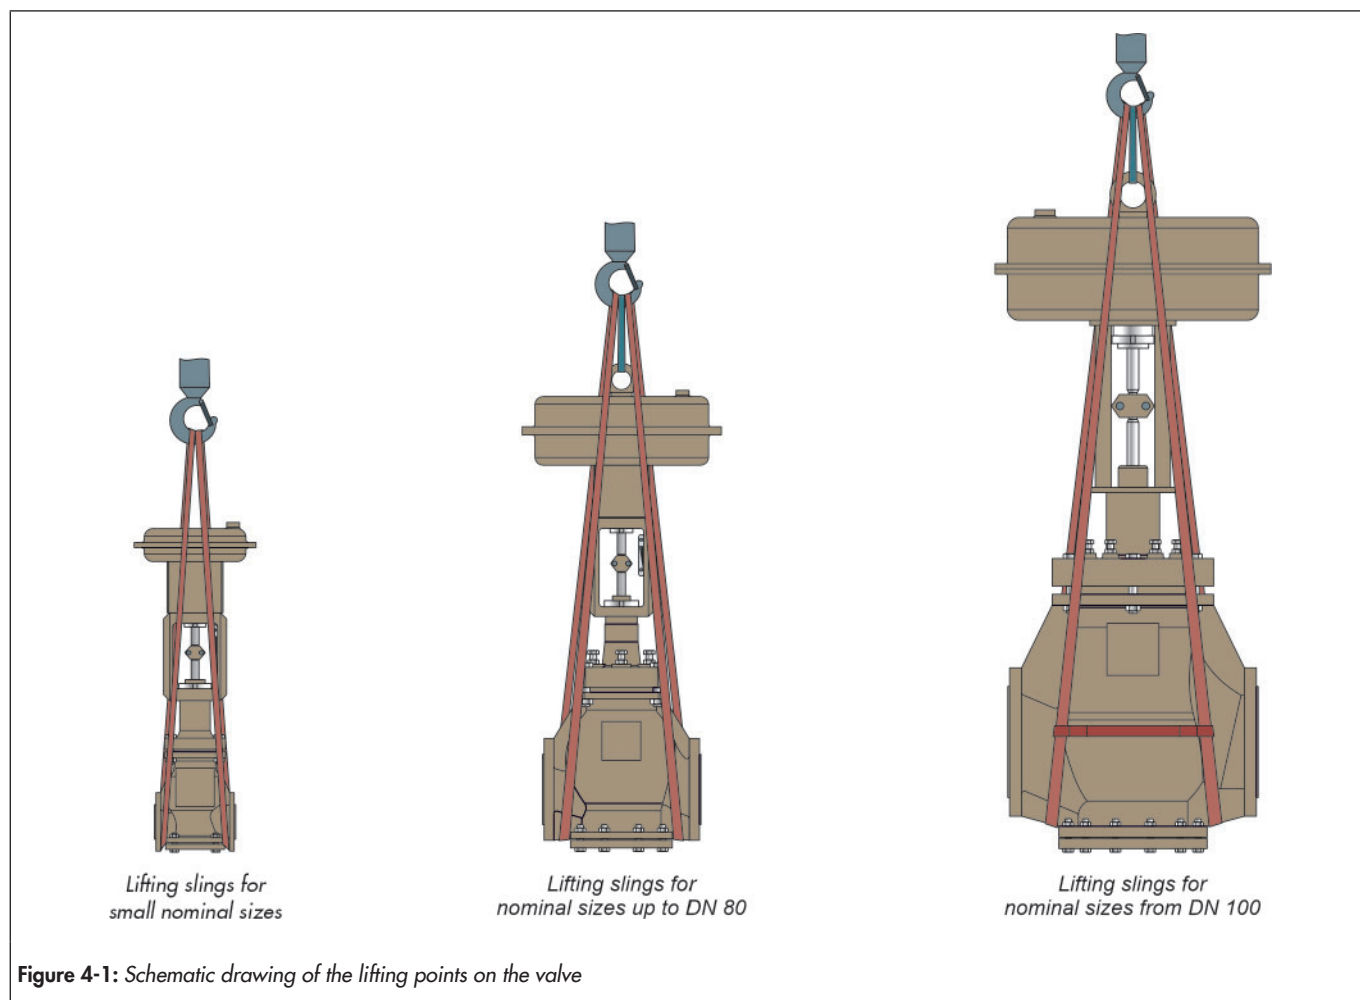

Figure 4-1: Schematic drawing of the lifting points on the valve
- ⇒ Use a hook with a safety clamp as the suspension element so that the sling cannot slip off the hook during lifting and transport, see Figure 4-1.
- ⇒ Fasten a lifting sling to each flange of the housing and on the suspension element (e.g. hook) of the crane or forklift, see Figure 4-1.